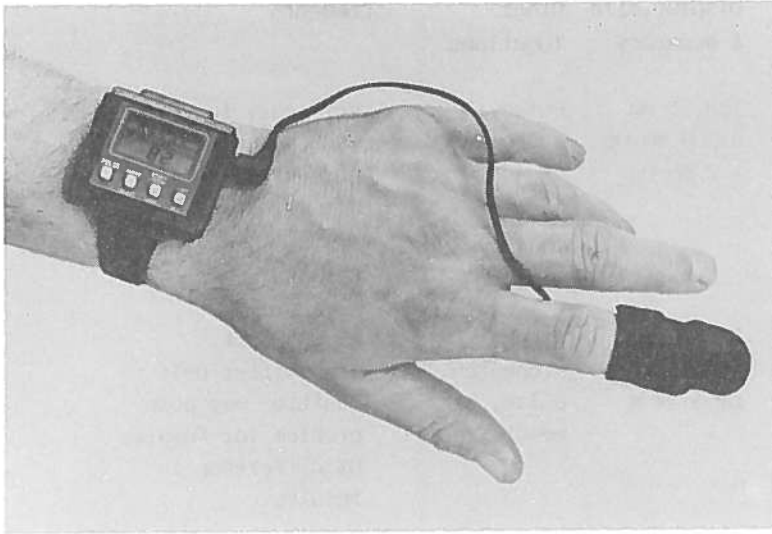

Fig.1
- wristwatch type with optical finger electrode (Fig. 1)